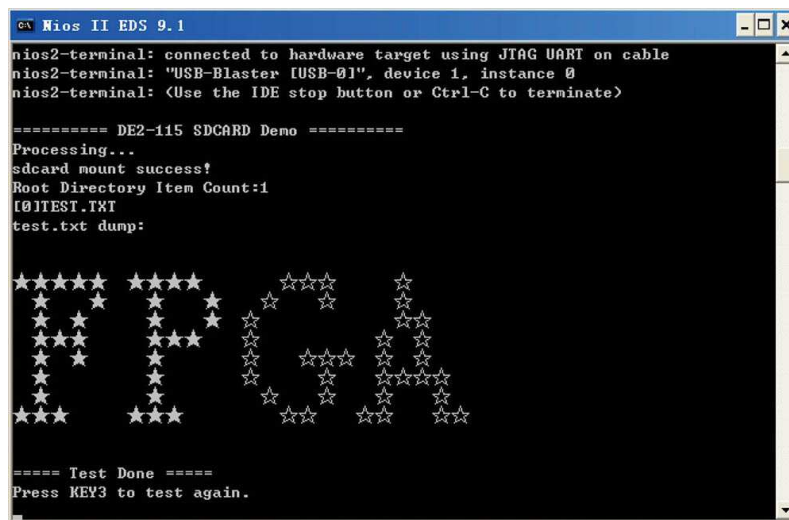

Figure 6-12 Running results of the SD Card demonstration
- The program will display SD Card information, as shown in Figure 6-12.